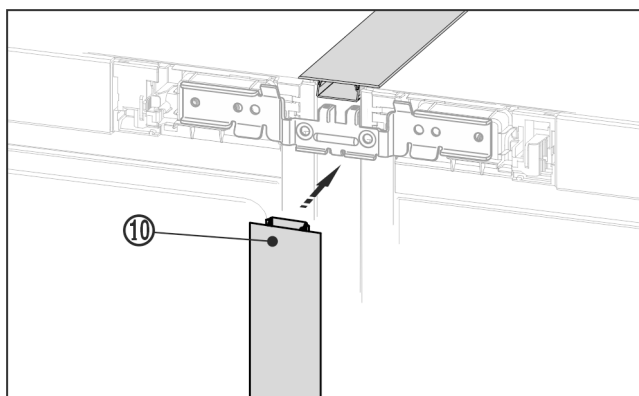

Fig. 22 *
- On the front press the long cover strip Fig. 22 (10) into the vertical gap. Ensure that the strip rests on the connecting plate.*